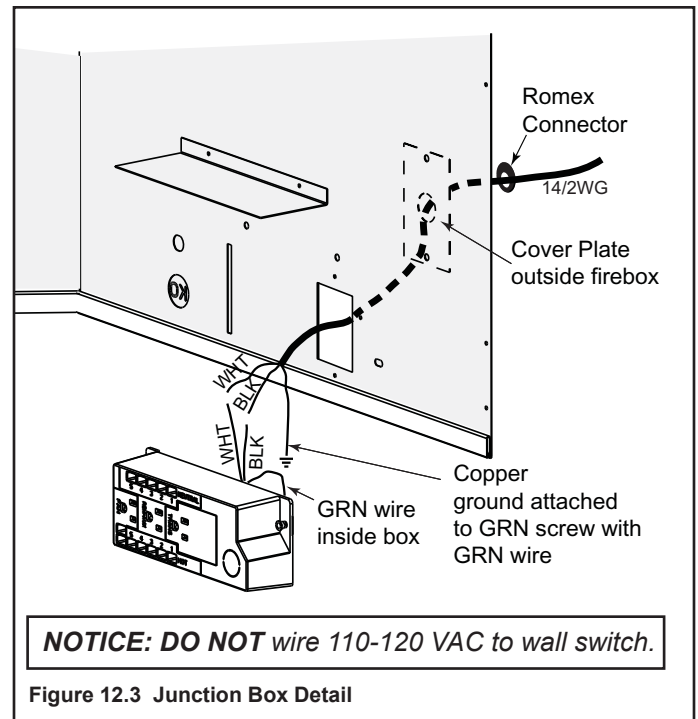

Figure 12.3 Junction Box Detail
- Remove the cover plate located on the outer shell - right side (see Figure 12.3).
- Remove the screw attaching the junction box/receptacle to the outer shell, rotate the junction box inward to disengage it from the outer shell (see Figure 12.3).